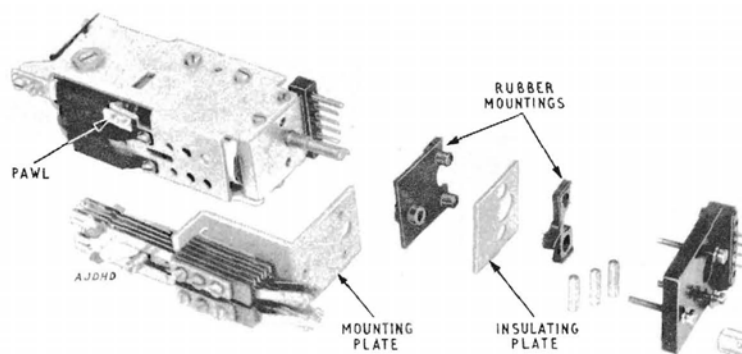

FIG. 5
**3. Mounting.** To reduce the amount of transmitted vibration when stepping, the relay is mounted on rubber. The arrangement is shown in Fig. 5.